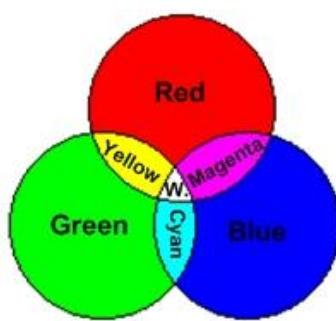

Figure 18-6: Making New Light Colors by Mixing the 3 Primary Light Colors
We can get other colors by mixing the three primary colors of Red, Green, and Blue. The intensity (proportion) of the colors mixed can also affect the color we get. In many high-end graphics systems, an 8-bit value is used to represent the intensity. Its value can be between 0 and 255 (0 to 0xFF) representing high intensity (255) and zero intensity. See Table 18-2. Using three primary colors and intensity, we can make many colors we want. See Figure 18-6.